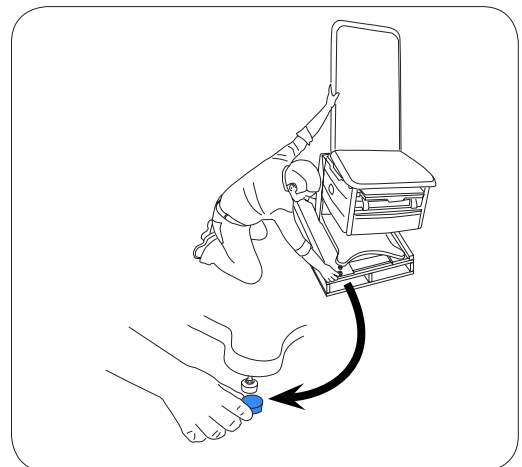

Figure 13. Installing Leveler Slides
14. Tilt table slightly to place the (4) slides under levelers (Figure 13).